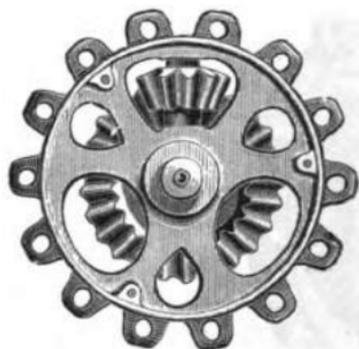

FIG. 39.—INTERIOR OF STARLEY'S GEAR,
extending from the inner side of the chain pulley (E). It is more clearly shown in Fig. 39, which also shows the skeleton pulley wheel. The crown pinion (B) gears equally into the teeth of A and C, but is also free to revolve on its axis. By a little thought, even the most unmechanical mind can grasp the simple details of this mechanism. When power is applied to the chain pulley, and the resistance offered to the wheels is the same, as when riding straight ahead, B retains its position in A and C, and all work together as if both wheels and the chain pulley were fixed to a common axle; but, in turning the least to either side, the outer wheel and pinion has to travel further, and, consequently, runs round the crown pinion. Perfect freedom of action in the wheels is thus secured by the gear, which might be more correctly termed a *power distributor* than a double driving gear. When the machine